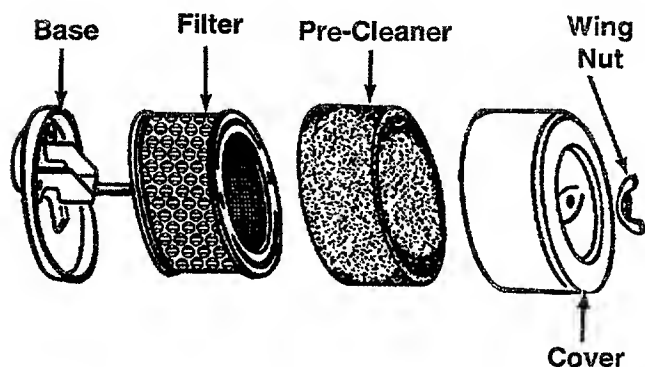

FIGURE 15.
- Remove wing nut and cover. See figure 15.